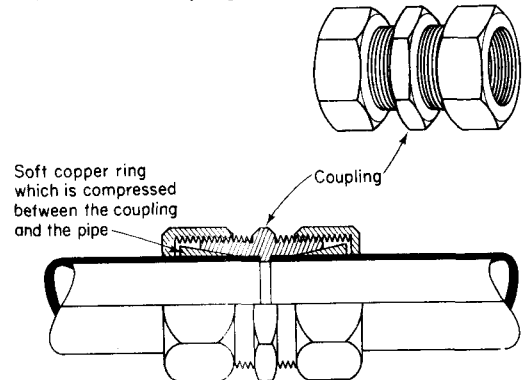

Fig. 4.161 Non-manipulative compression joint
2. **Non-manipulative compression joints** (Fig. 4.161). This joint does not require any working of the pipe except to cut it square. The joint is made tight by means of the soft copper ring which is compressed between the coupling and the pipe.